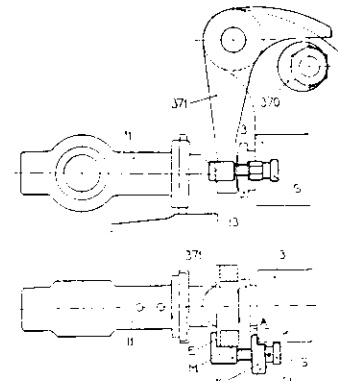

Fig. 4.
All 4-cylinder and the larger 2-cylinder engines have an intermediate piece between the striking edge of the regulator weight and the pump plunger, for which reason the pump gauge is of a different pattern, and is handled in the following manner (fig. 4).
The pump regulating lever (116 fig. 3) is placed at the top position on the segment, and the engine turned over so that the regulator weight (11) holds the pump plunger (13) pressed to its extreme inner position. The gauge (19) is then placed as shown in fig. 4, care being taken to see that it is held quite level and in line with the edge (E) of the intermediate piece and the centre line of the pump plunger. It must also be kept pressed against the surface (M) and the edge (E). By means of the screw (S) the gauge is now adjusted so that it comes in contact also with the pump housing
The adjustment of the fuel pump stroke is made by means of the eccentric (370) which is kept locked by a nut. The gauge is used as shown in fig. 4. For engines having a roller instead of the eccentric 370 (fig. 4) the pump stroke is decreased by placing a shim between the eccentric rod (14 A fig. 3) and the eccentric strap (26).
Care should be taken to see that the ebonite washer (10) on the reversing pump's regulator weight is not allowed to become too worn, as then the regulator weight will fall so low that an injection of fuel will be made by the reversing pump each revolution, which may have serious consequences. When the reversing pump is not working, the contact edge of the regulator weight should clear the recess in the intermediate piece (371 fig. 4) (on small engines, the pump plunger) by at least 1 mm. ($\frac{1}{100}$ ").